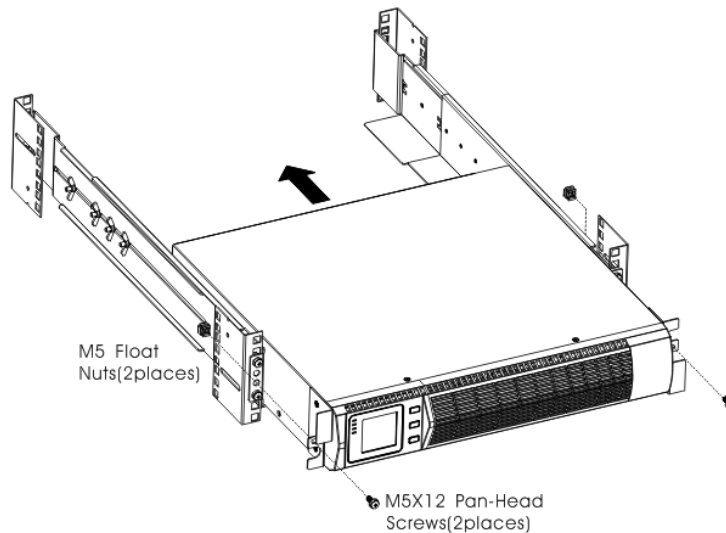

FIG.6 Securing the Front of the Cabinet
12. Secure the front of the UPS to the rack using one M5×12 pan-head screws and one M5 cage nuts on each side(see FIG. 6).Install the bottom screw on each side through the bottom hole of mounting bracket and the bottom hole of the rail.